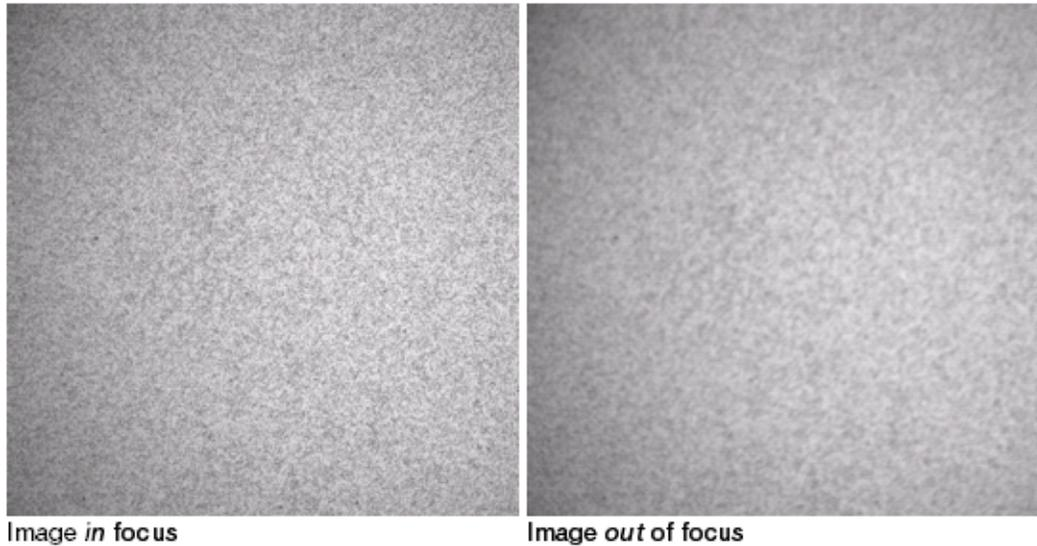

Figure 74 Examine the image on the screen.
- When the Imager displays **READY**, click the **Acquire** button, then examine the image on the screen (see Figure 74 on page 110).